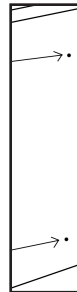

fig. 8
5. Replace the plastic door hole plugs on the side of the previously removed door handle. (see fig. 8)